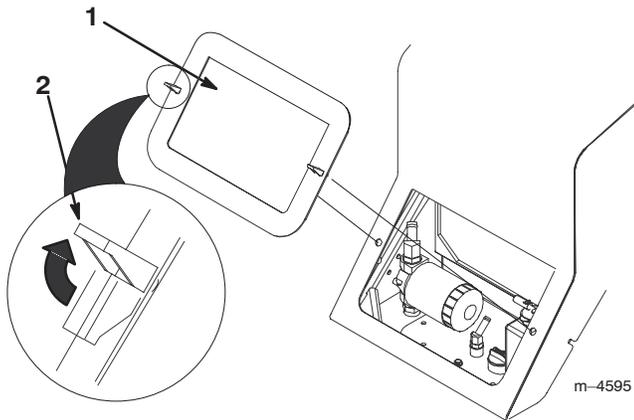

Figure 18
3. Release the two locking tabs (Fig. 18).
4. Pull the cover off of the traction unit (Fig. 18).